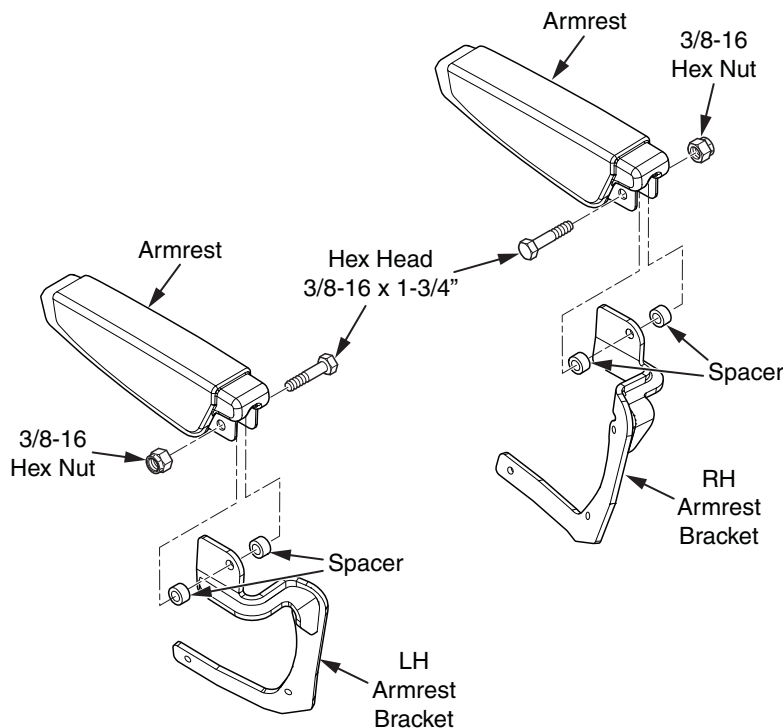

Figure 4. Assemble Armrest to Bracket
5. Assemble one (1) armrest onto the LH armrest bracket as shown in figure 4 and secure using one (1) 3/8-16 x 1-3/4" hex head bolt, one (1) 3/8-16 hex nut with thread locking patch and two (2) spacers provided. Repeat this assembly procedure for the RH armrest and armrest bracket. See Figure 4.